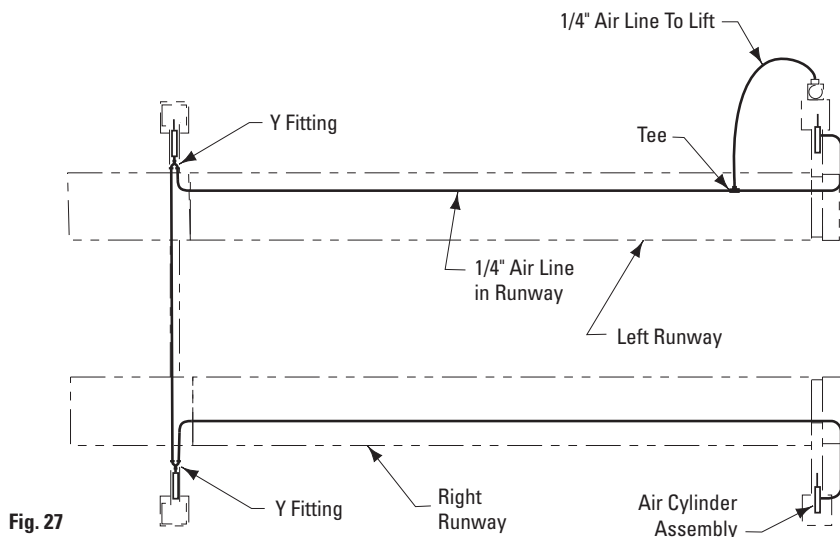

Fig. 27
- F. Attach enclosed NP280 decal (ACTUATE TO RELEASE LATCHES) on air valve bracket. Run 1/4" air line from air valve to the slot in the fixed runway. Cut air line and attach to Tee in front yoke, Fig. 27. This air line is for locking latches.
- G. Run 1/4" air line from the Tee of the runway slot through the hole in the rear yoke and into the air cylinder, Fig. 27.